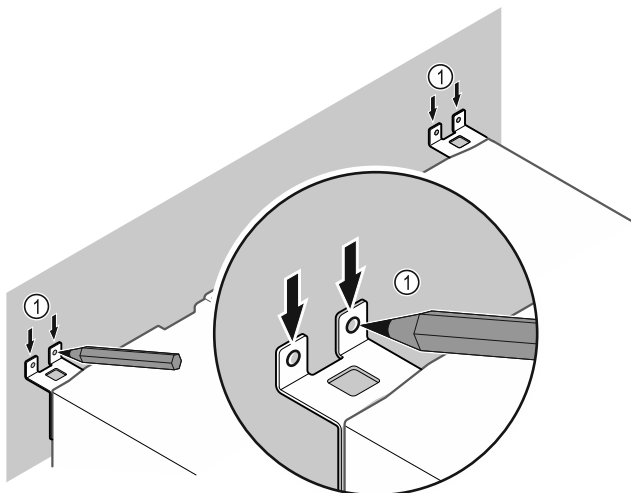

Fig. 50
- ▶ Make markings on the wall Fig. 50 (1).